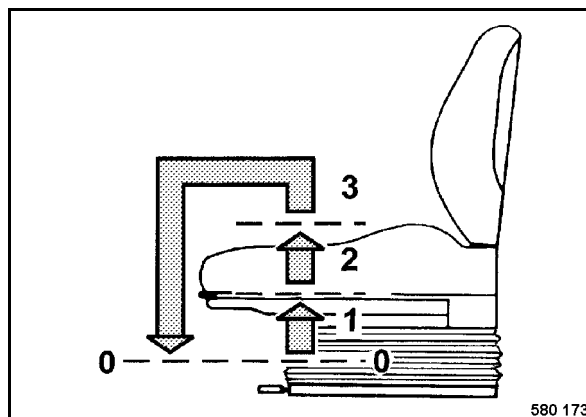

Fig. 71
- To adjust the height of the seat lift the seat up (Fig. 71) until it engages at the desired level. When lifting the seat completely it will sink down to lowest position.